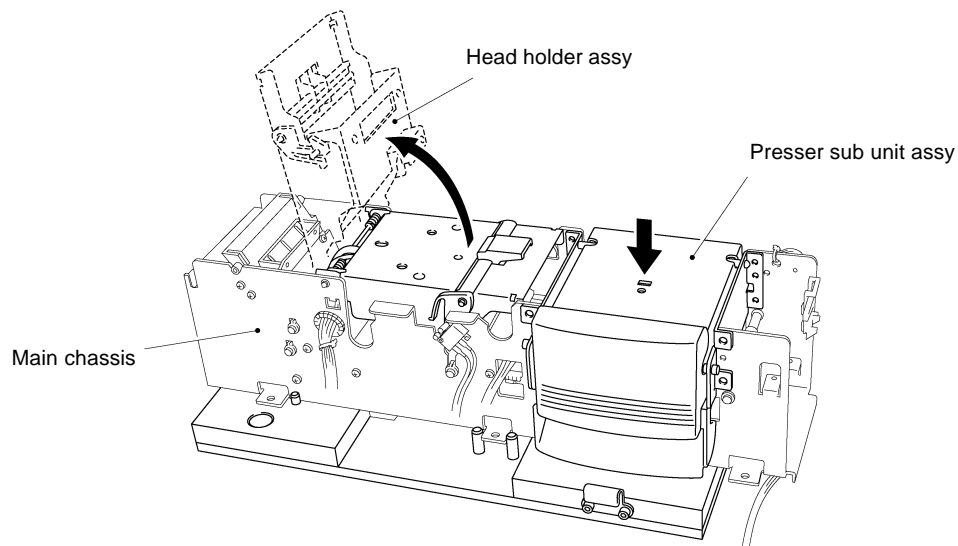

Fig. 3.72B
- (2) Place the presser sub unit assy on the main chassis, as shown in Fig. 3.72B.